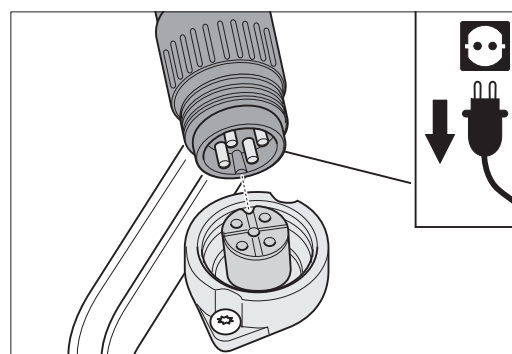
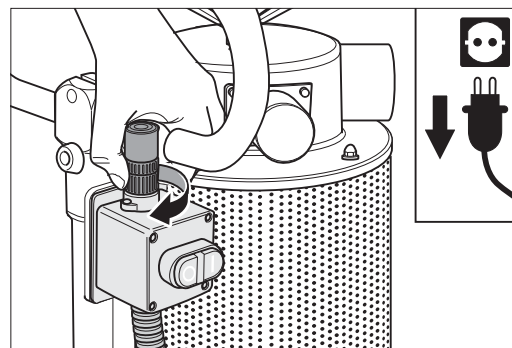

Fig. 21b Insert the plug of the sensor into the switch. Make sure that the nose of the plug is inserted into the groove of the socket!
Fig. 21c Lock the plug of the sensor by turning the ring nut.
- 4 Insert the plug of the sensor into the on/off switch. Make sure the nose of the plug is inserted in the groove of the socket (Fig. 21b). Lock this fasten connection by turning the ring nut (Fig. 21c).